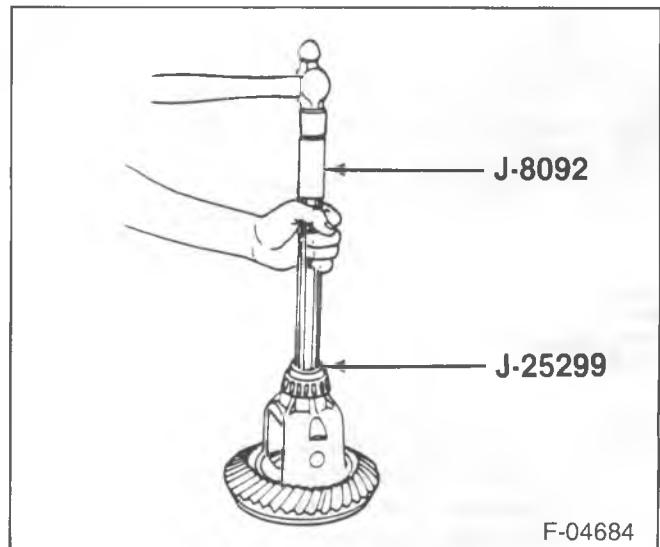

Figure 12—Installing the Side Bearing
- 9. Differential side bearings (22) using J 25299, J 8092, and J 8107-2 (figure 12).
- 10. Differential case (24) to the axle housing. Refer to "Side Bearing Pre-Load Adjustment" in this section.